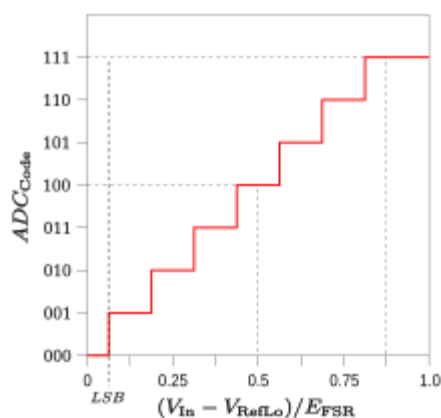

Fig. 1. An 8-level ADC coding scheme
- Coding scheme as in figure 1
Analog to digital conversion as shown with fig. 1 and fig. 2